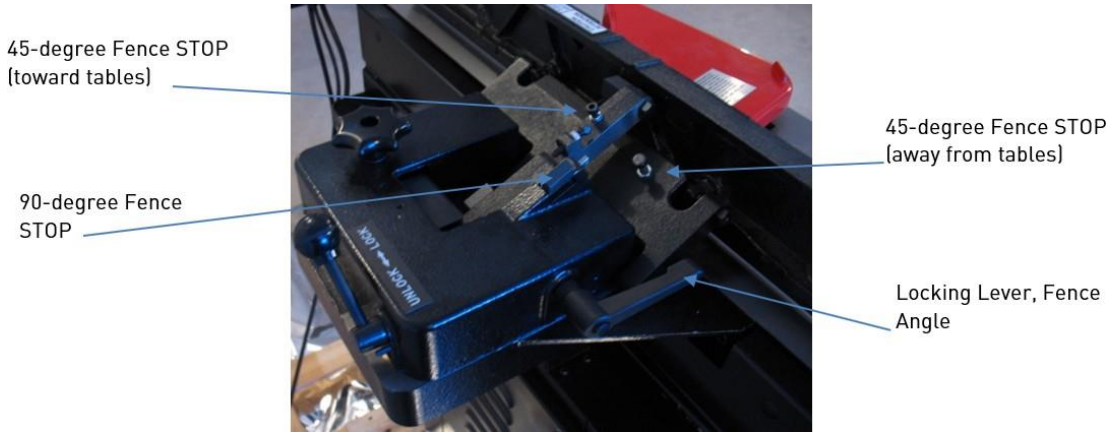

FIGURE 11: Fence Stope & Locks
**NOTICE!** The 90-degree position has an included reference STOP (Fig. 11). To adjust, flip the stop into position, loosen the lock nut and rotate the adjusting screw until the fence is at 90 degrees to the table. Tighten the lock nut and flip the stop back if making other angled adjustments. To check the 90 degree setting, place a square on the outfeed table and against the fence.
To adjust the fence perpendicular or angled to the bed, loosen the Locking Lever (Fig. 11) and adjust the fence to the desired position.